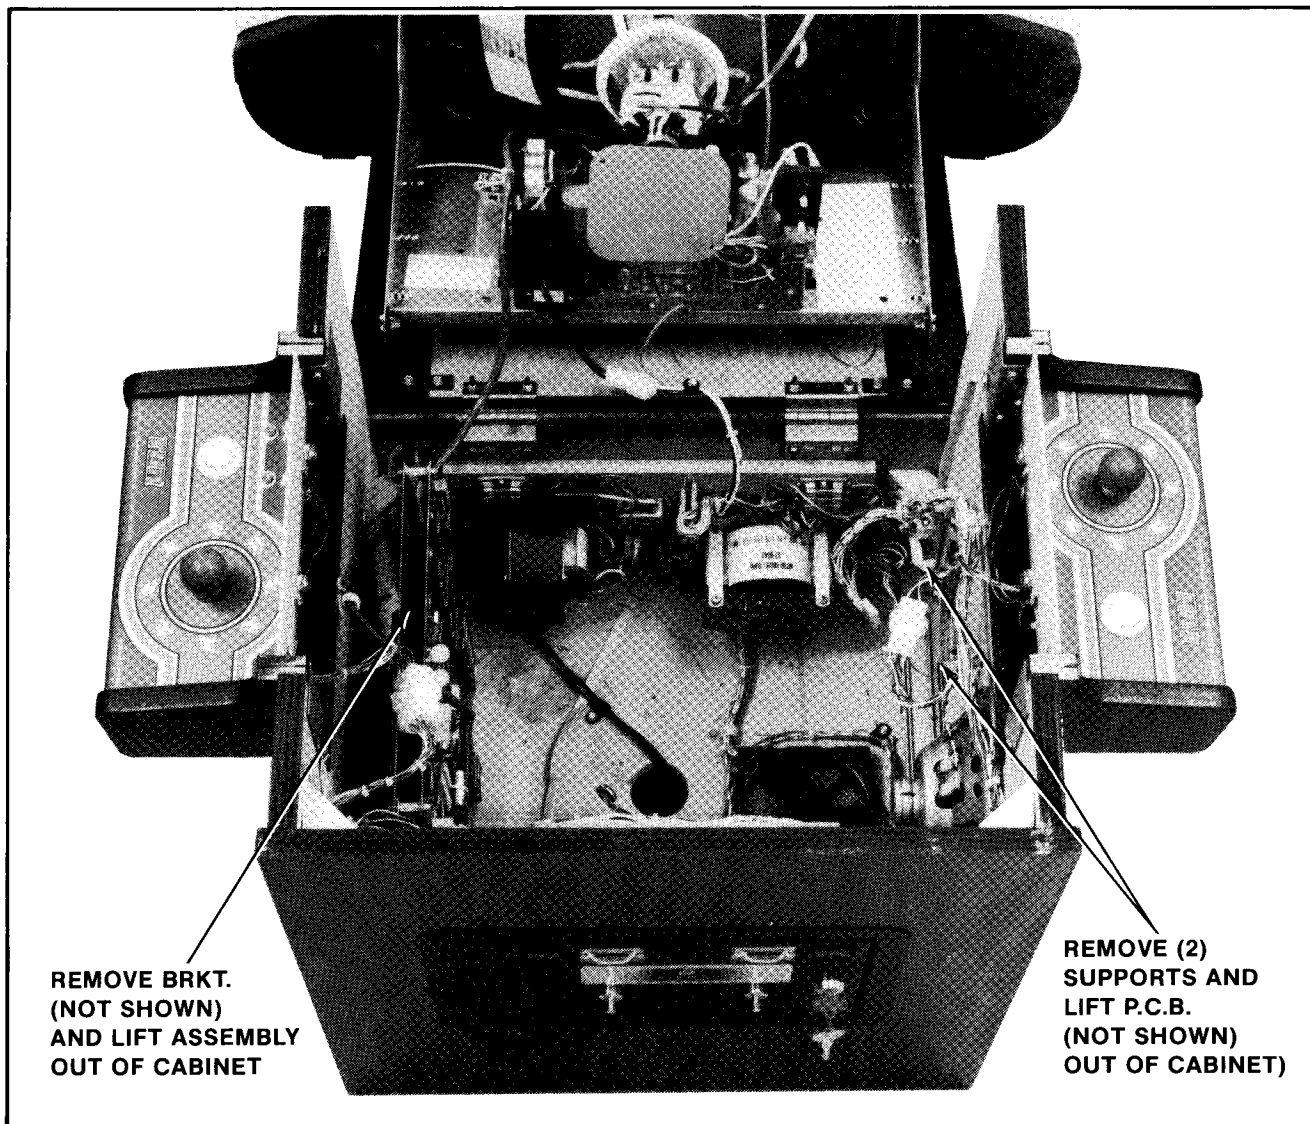

Figure 4-14 Replacing P.C.B.s — Cocktail
**3. COCKTAIL TABLE MODEL:** See Figure 4-14.
- To remove the power supply board. See Figure 4-14.
- To remove the game and sound boards. See Figure 4-14.